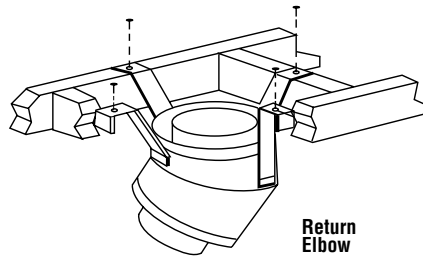

Figure 38
**Step 5.** Secure support straps to framing members by nailing under tension in sheer (Figure 38).